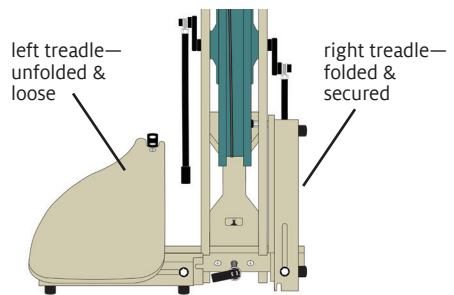

FIGURE 2: POSITION TREADLES
3. Position the treadles for drive band replacement: Disconnect both footmen and open the treadle quick release lever. Slide the treadles apart. Leave the left treadle down and set the right treadle in folded position, secured to the right side with a footman knob (Figure 2).